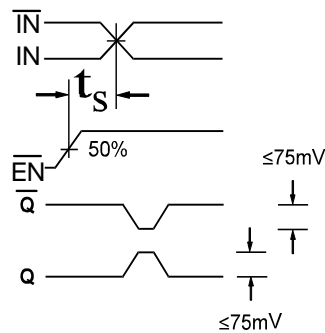

Figure 1. Setup Time
- The setup time is the minimum time that EN must be asserted prior to the next transition of IN/ $\bar{IN}$  to prevent an output response greater than  $\pm 75\text{mV}$  to that IN/ $\bar{IN}$  transition (see Figure 1).